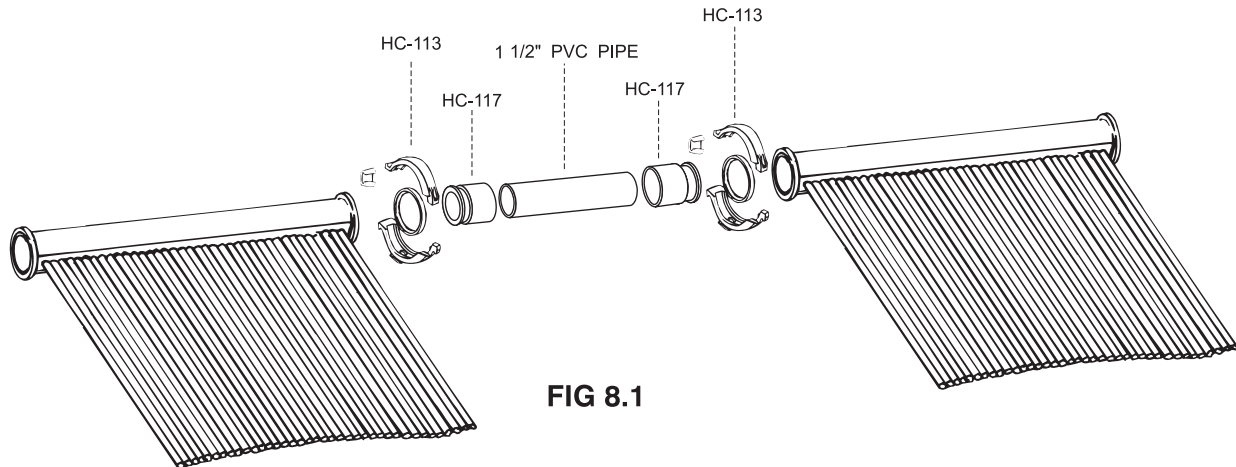

FIG 8.1
3. Cement the PVC pipe to the Pipe Connectors as shown in Fig. 8.1.